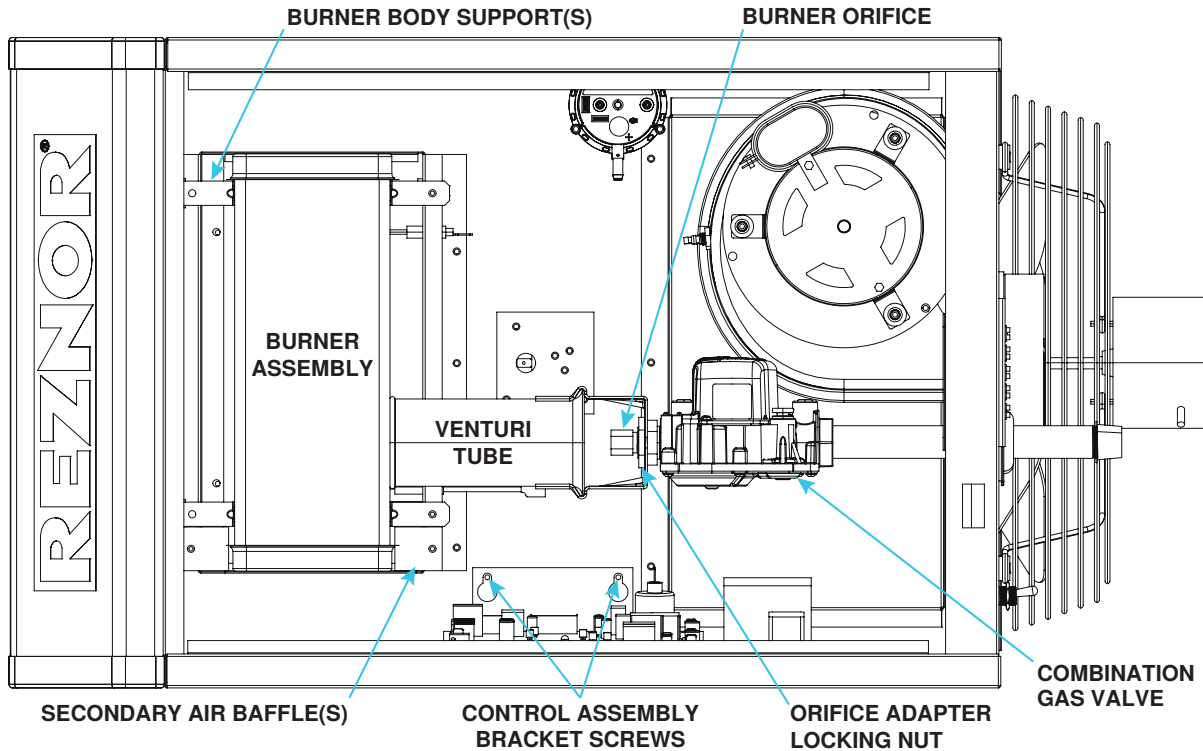

Figure 22. Burner Compartment (Typical)
Visually inspect the burner compartment (see Figure 22). If there is an accumulation of dirt, dust, and/or lint, clean the compartment and remove and clean the burner as follows:
2. Remove burner assembly (see Figure 22):
- (1) Remove four screws that secure end cap to burner housing.
- (2) Lightly tap end cap to remove it.
5. Re-install burner assembly (see Figure 22):